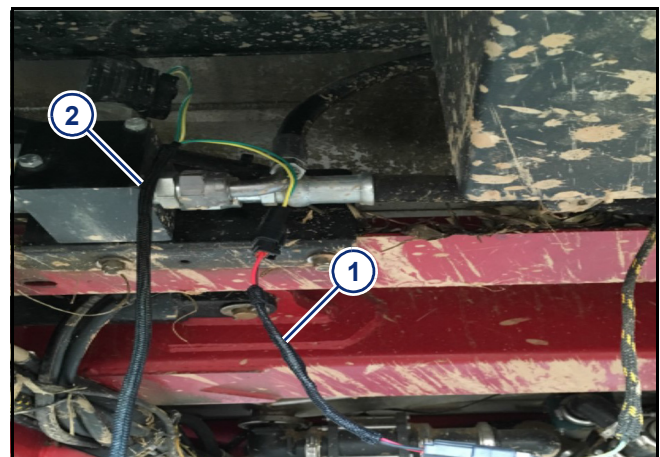

Figure 2
- [Figure 2]** - Install the 2-wire resistor adapter (1) supplied in the kit onto the wire removed from PWM cartridge in Step 1.
- Install the Synchro® adapter cable (2) onto the 2-wire resistor adapter (if applicable) and into the PWM cartridge.